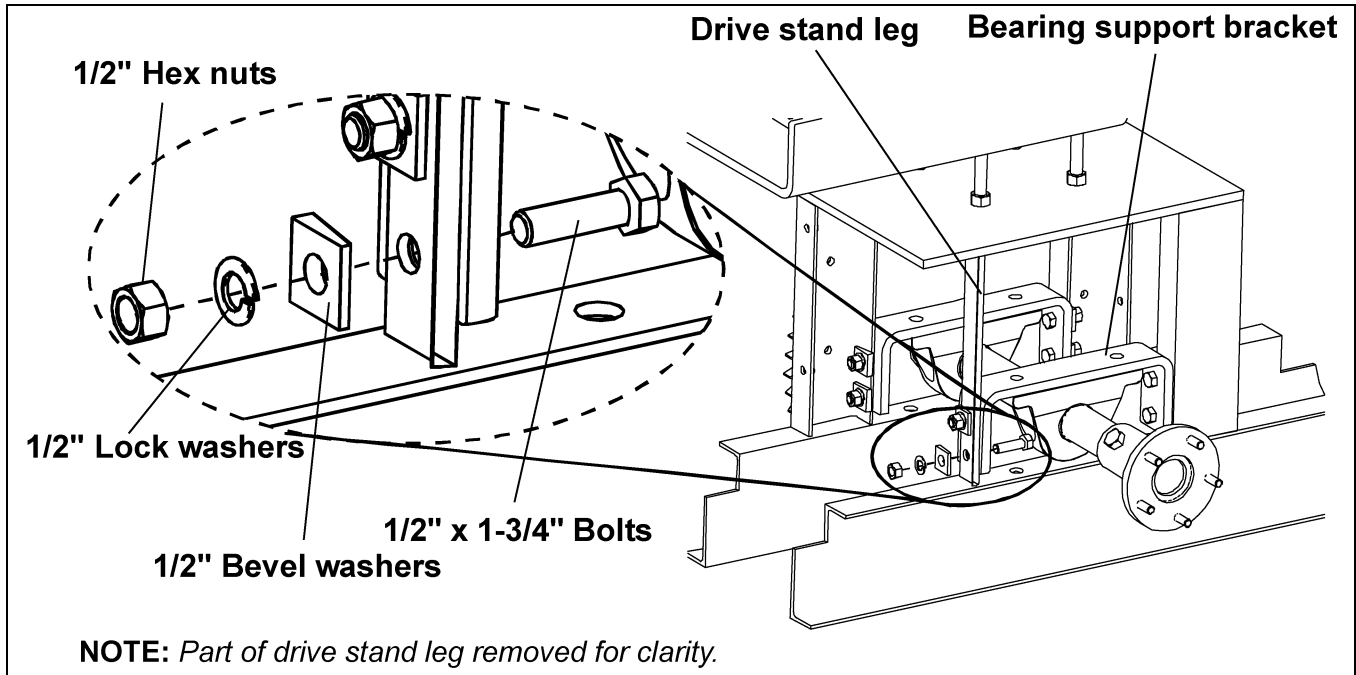

Figure 5K
E. Bolt the bearing support brackets to the legs of the tractor drive stand using 1/2" x 1-3/4" bolts, 1/2" lock washers, 1/2" bevel washers and 1/2" hex nuts. (See Figure 5K.)